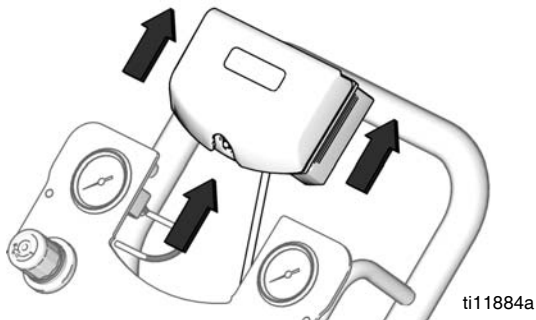

FIG. 12. Remove DataTrak
3. Remove DataTrak module from bracket. See FIG. 12. Take module and attached cable to a non-hazardous location.